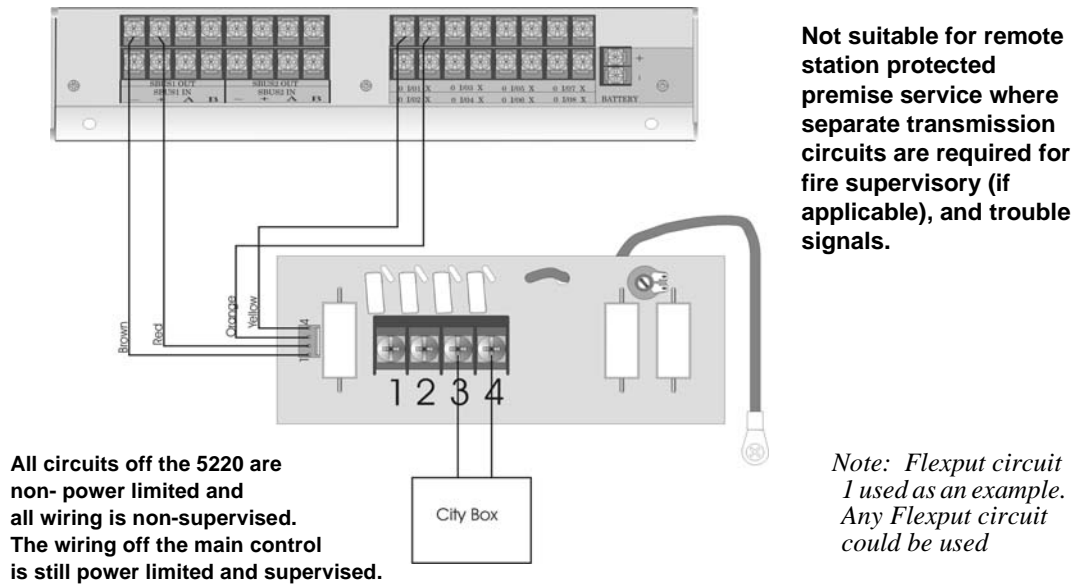

Figure 4-57 City Box Connection
2. Wire the 5220 to the control panel as shown in Figure 4-57. This drawing also shows how to connect the city box coil to terminals 3 and 4 on the 5220. Do not install an EOL resistor in the terminals of the Flexput circuit used for this application.